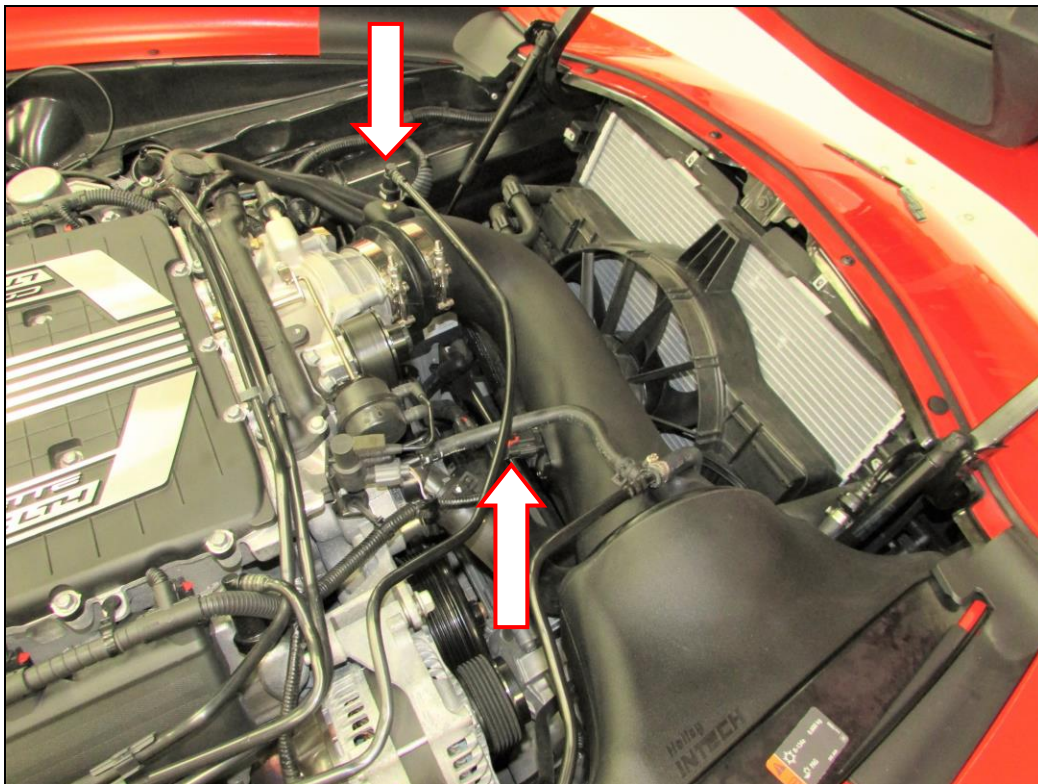

Figure 9
15. Install the tube and air filter assembly into the intake housing until the filter bottoms out (**soap and water or equivalent will help with inserting the filter into the housing**). Rotate and align the tube with the throttle body and coupling (**Figure 9**).
16. Insert tube into the silicone coupling. Install the remaining T-bolt clamp and tighten (**Figure 9**).
17. Reconnect the MAF sensor harness to the MAF sensor (**Figure 9**).
18. Reconnect the CCV fitting to the iNTECH tube (**Figure 9**).